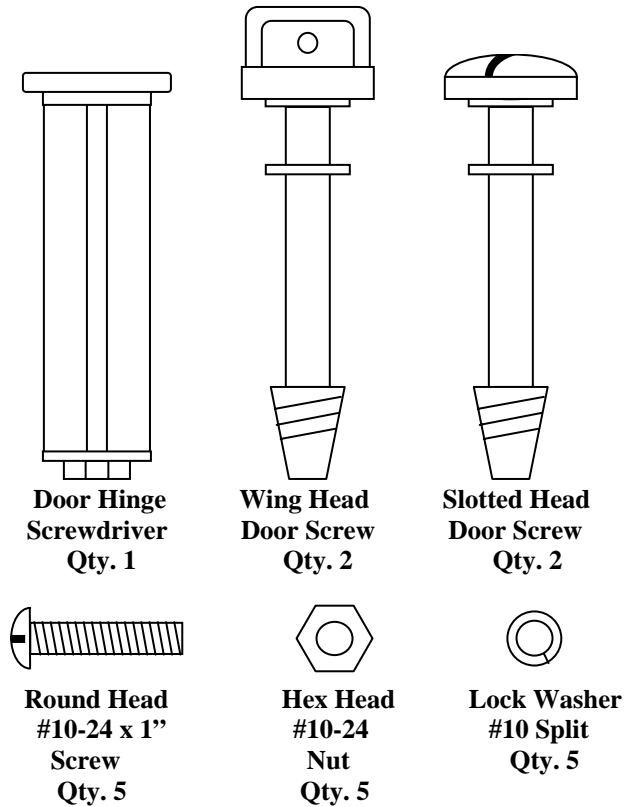

Figure 4-1A. Installation Hardware.
Mounting hardware is provided. See next page Figure 4-1A. Installation Hardware. The door is not attached when the unit is shipped to make it
3. Mount the receiver. Through the four deep mounting holes in corners of the receiver housing use quantity four #10-24 slotted round head screws 1" in length, four #10 lock washers and four #10-24 hex nuts. Lock washers should be used in front of hex nuts. (Five sets of mounting hardware are provided; one set is a spare). See Figure 4-1A. Installation Hardware.
4. Attach door. Put two door screws in door. (Included in your unit are two pairs of door screws. One pair slotted and one pair wing head.) Pick the screws that are preferred, line up the slots in the door holes with the tapered part of the screw tip and firmly press the screws through the holes in the door until they snap through. (Lightly tapping them with a hard object will help to snap them in). Use the special door hinge screwdriver provided to screw in the door hinges to the main box. See Figure 4-1A. Installation Hardware.